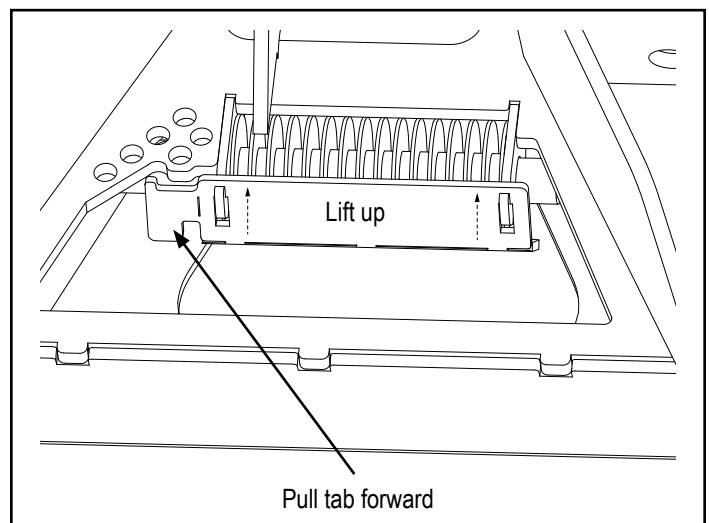

Figure 4
7. Remove the front igniter cover by bending the metal tab on the left forward from the burnpot grate. With the tab bent out, the cover should lift up off the main bracket hooks. (Note how the wires from the igniter loop toward the front of the burnpot before routing toward the rear of feeder when the igniter is in place.) The igniter will pull straight out of the main bracket. Figure 4.